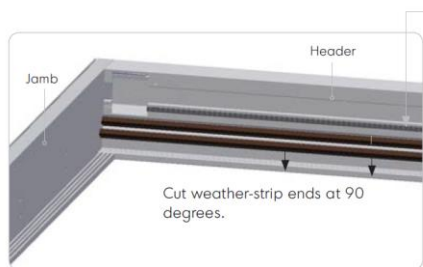

Figure 3a
9. Apply horizontal frame seal as shown in figures 3a and 3b.